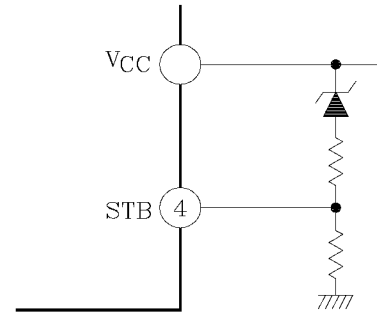

Fig.7
When the stand-by terminal was put to the low level after the ripple rapid discharging circuit was operated ($V_{CC} \cong 7V$) at the time when V_{CC} was turned OFF, a pop noise may be generated. Therefore, V_{CC} which makes the Stand-by terminal low shall be set at 8V or above so that (1) the Stand-by terminal is put at the low level and (2) the ripple rapid discharging circuit is turned ON when V_{CC} is turned OFF (in order of (1) and (2)). An example of application is shown in (Fig. 7).